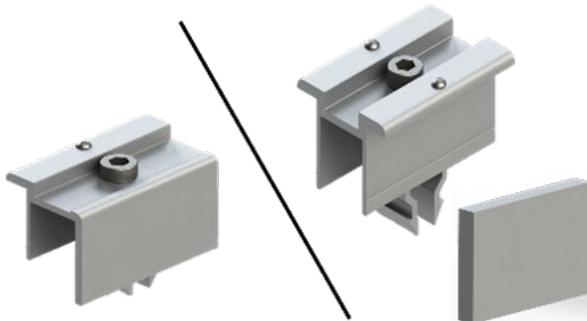

Fig. C2 – KB Konnect End Clamp, KB Konnect Clamp with End Block
- 2 Click the KB konnect end clamp (see Fig. C2) into the top support slot. Install with either KB konnect end clamp or KB konnect clamp and end block.